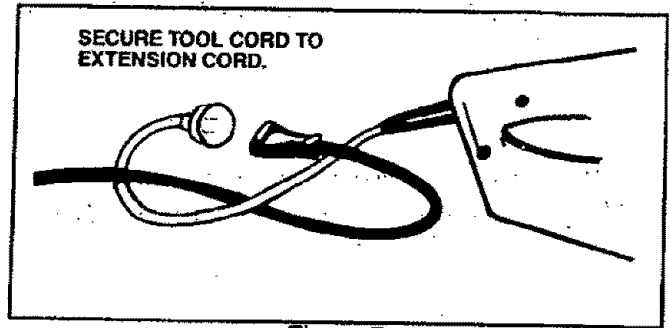

Figure 7
- a. Secure the tool cord to the extension cord as shown in Figure 7 to prevent disconnection.